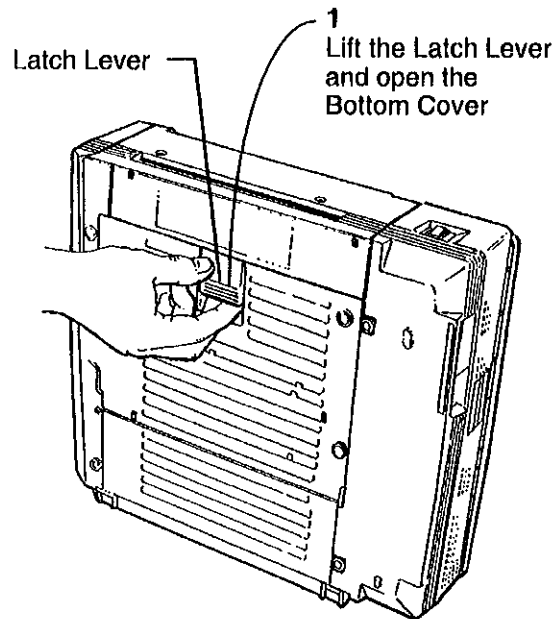

Figure 1. Opening the Bottom Cover (Door)
- 2 (Figure 1) While holding the Platen Cover/Glass Assembly in place, turn the copier up onto the Left Side Cover as shown, and open the Bottom Cover Door.